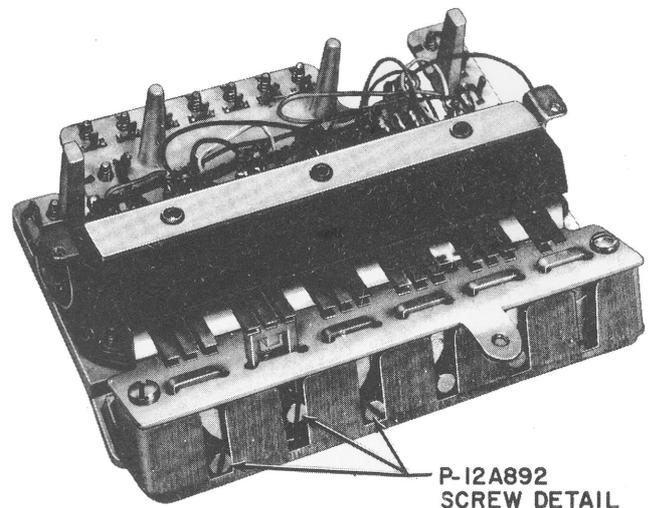
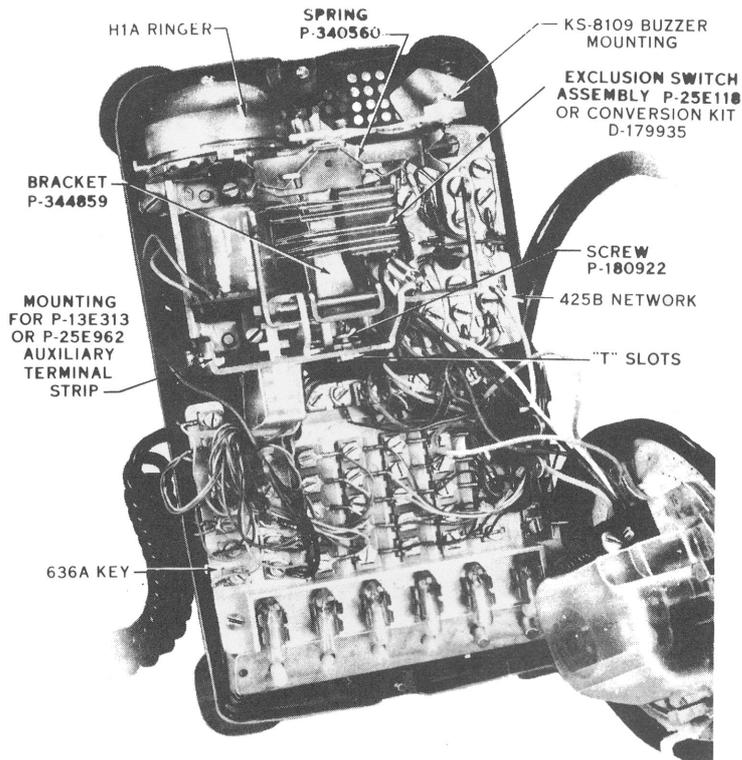

Fig. 1 - 636A Key, Bottom View
Fig. 2 – 636A Key Installed in 565-Type Telephone Set
2.06 The 636A key (Fig. 1) has conductors on each pickup button which connect to individual wafer sections (Fig. 2). This enables lines to be interchanged between buttons in the set without external changes being required.
2.08 Three of the pickup buttons on the 560 and 1560 6-button sets are arranged for conversion to signal. To convert, remove P-12A892 screw detail (Fig. 1) and make necessary wiring changes.